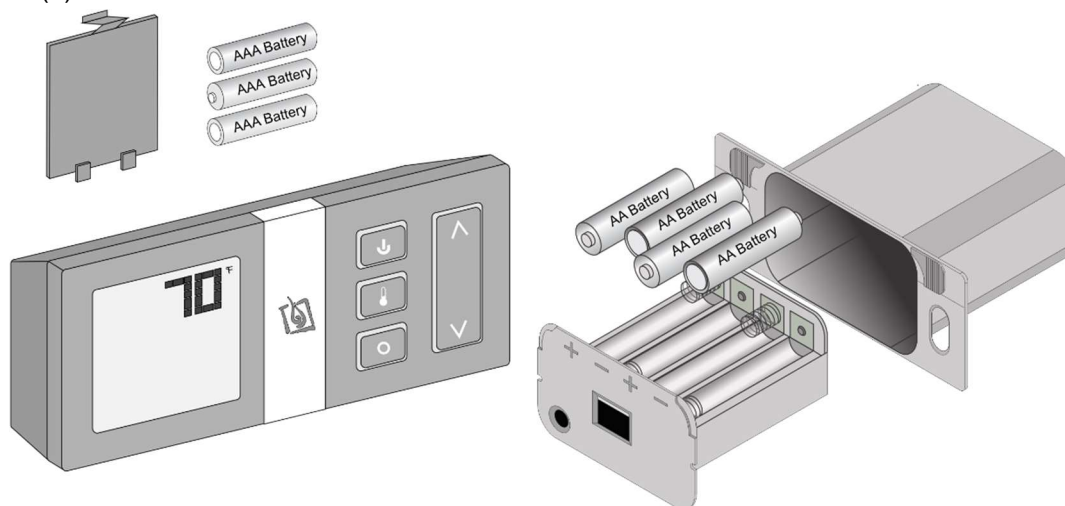

Figure 13
Install (4) AA batteries into the battery holder (see Figure 13 below). These batteries act as a power backup in case the household (AC) current goes out.